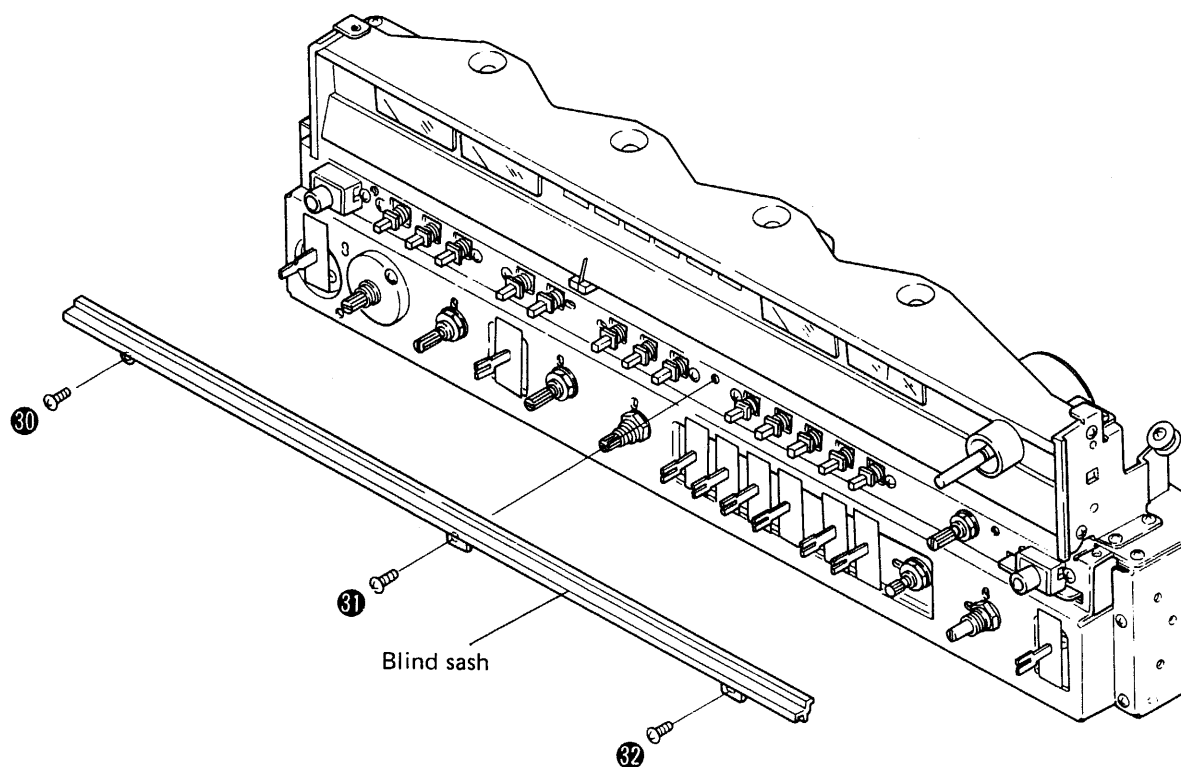

Fig. 13
2. Undo the 3 screws ③① ~ ③② to remove the blind sash (Fig. 13).